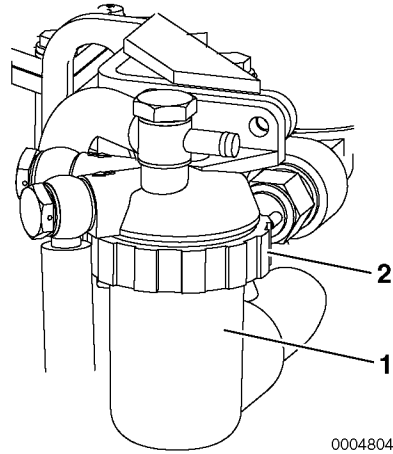

Figure 4
3. Loosen the retaining ring (**Figure 4, (2)**) counterclockwise with a filter wrench.
4. Remove the fuel filter housing (**Figure 4, (1)**) and remove the element. Replace the element with a new one.